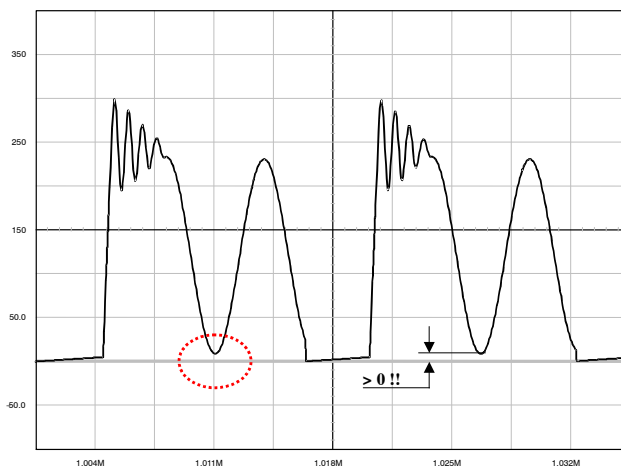

Figure 38. The Drain-Source Wave Shall Always be Positive
1. The lateral MOSFET body-diode shall never be forward biased, either during start-up (because of a large leakage inductance) or in normal operation as shown by Figure 38. This condition sets the
Figure 40a: the simple capacitor limits the voltage according to The lateral MOSFET body–diode shall never be forward biased, either during start–up (because of a large leakage inductance) or in normal operation as shown by Figure 38. This condition sets the maximum voltage that can be reflected during  $t_{off}$ . As a result, the Flyback voltage which is reflected on the drain at the switch opening cannot be larger than the input voltage. When selecting components, you thus must adopt a turn ratio which adheres to the following equation: Equation 3. This option is only valid for low power applications, e.g. below 5 W, otherwise chances exist to destroy the MOSFET. After evaluating the leakage inductance, you can compute C with Equation 4. Typical values are between 100 pF and up to 470 pF. Large capacitors increase capacitive losses...